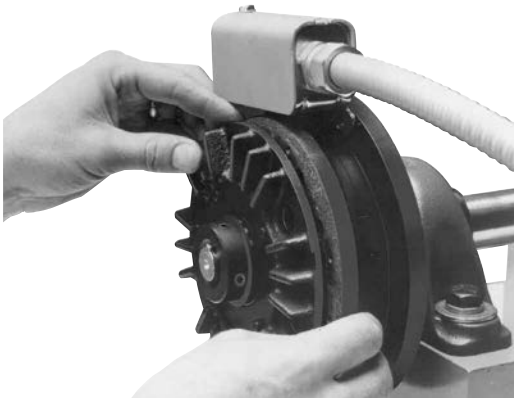

Figure 6
6. Insert two new friction material segments. The recessed holes should be facing away from the magnet body. (See Figure 6)